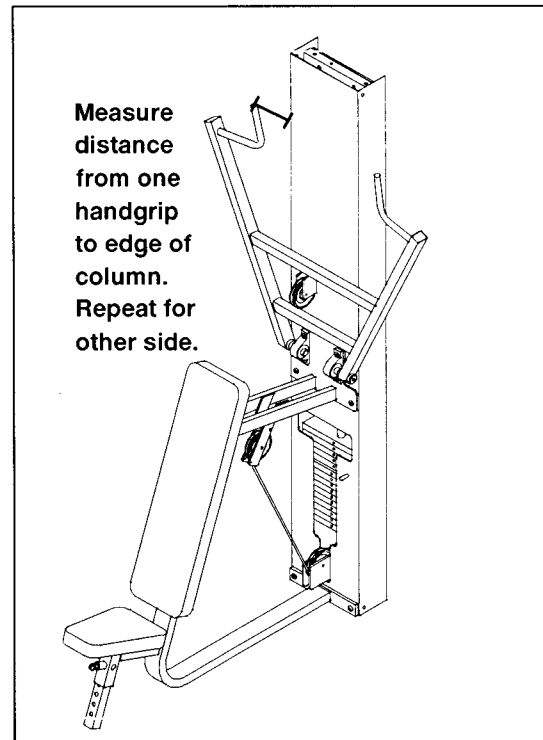

Figure 2 - Verifying Alignment
3. Lift up arm and measure distance from handgrip to side of column. Repeat same measurement for other side. If distances are not equal then loosen screws securing pillow block and realign by moving pillow blocks up or down. See Figure 2.